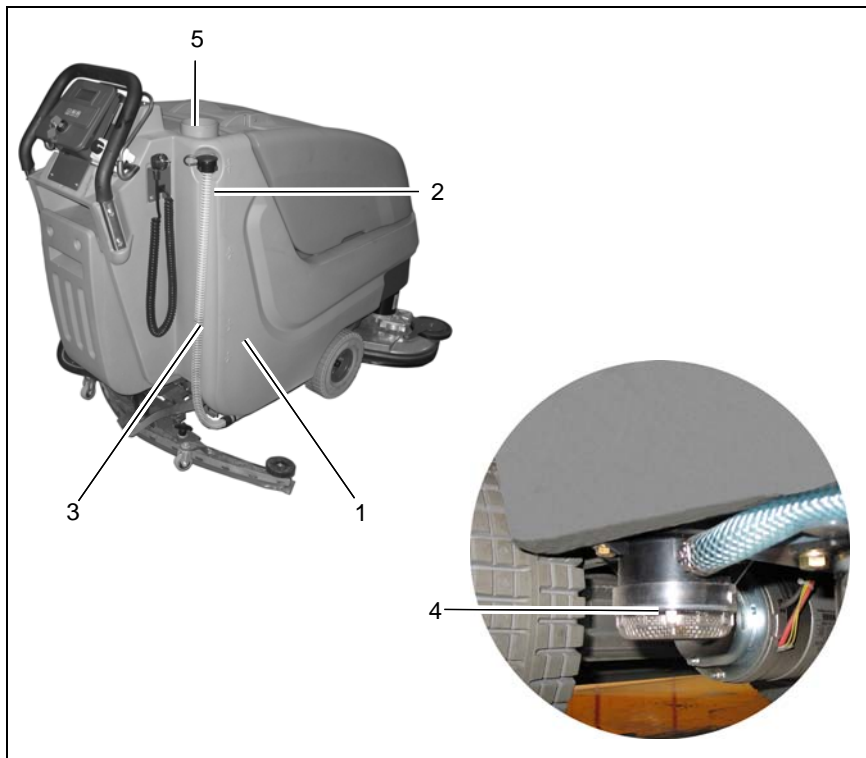

Abb.8
Fill solution tank (Abb. 8/1) before work or as required. Park vehicle on level ground. Open tank lid (Abb. 8/5) and fill tank up to the maximum (1/1 marker) (Abb. 8/2).
Alternatively, filling of the machine via quick coupling (Abb. 8/6) is available. Before doing so, connect the filling hose of the dosage unit and the quick coupling. The floater valve automatically closes after the maximum filling level has been attained.
Park vehicle such that the fill level hose (Abb. 8/3) is located above the drain aperture in the floor. Take fill level hose from holder and remove lid.
Check solution filter (Abb. 8/4) at weekly intervals and clean or replace if required.
1. Empty solution tank (Abb. 8/1), siehe Abschnitt 4.5.2.